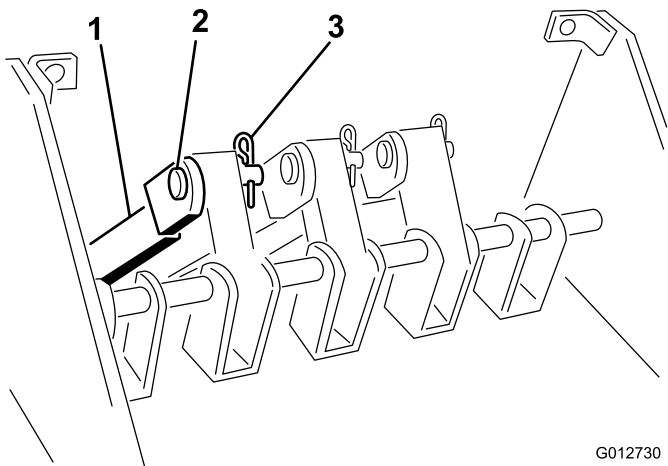

Figure 16
- Remove the locknut and pivot securing the pivot block levers to the control tower (Figure 16).
- Install the new pivot block levers onto the pivot pin while reinstalling the existing pin and the existing blocks into the control tower (Figure 16).
- Secure the upper control linkage tubes to the pivot blocks with clevis pins and cotter pins (Figure 16). Coat the pins with #2 grease.